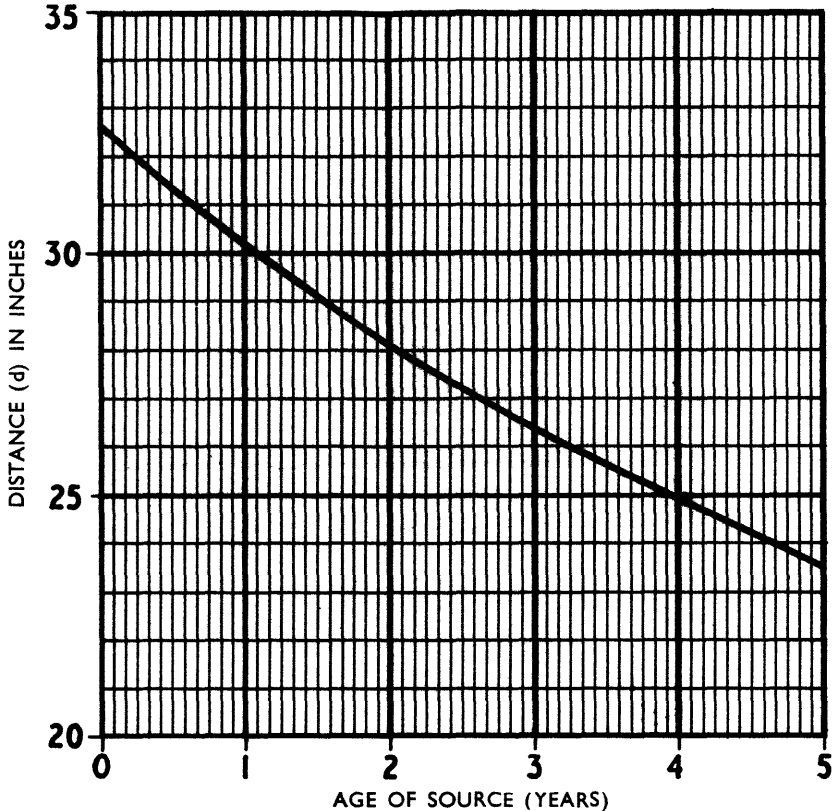

Fig. 5 Calibration Curve
(3) To obtain the distance (d), first ascertain the age of the source from the date of manufacture painted on the side of the container (if month not quoted, assume to be June) and then find the corresponding point of intersection on the graph at fig. 5.